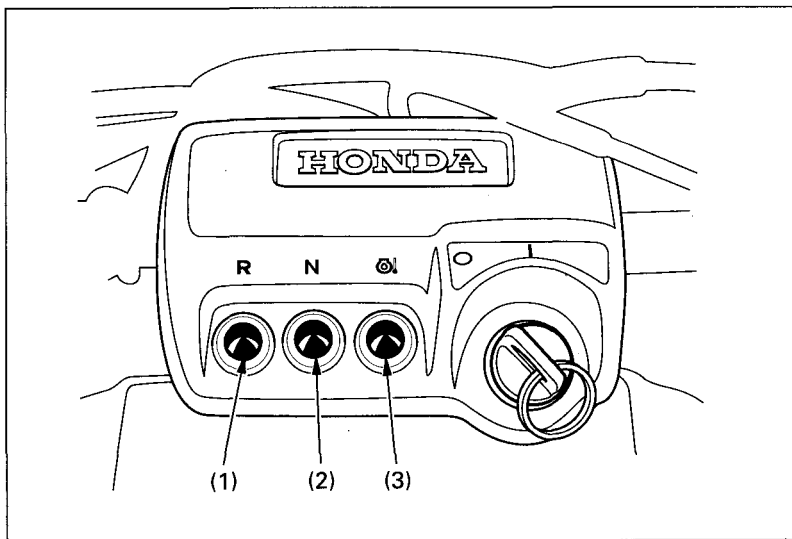

Fig. 2-13
If the engine oil gets too hot, the oil high temperature indicator lamp (Fig. 2-13) will light.
The reverse indicator lamp (1) and the neutral indicator lamp (2) (Fig. 2-13) are next to the ignition switch.